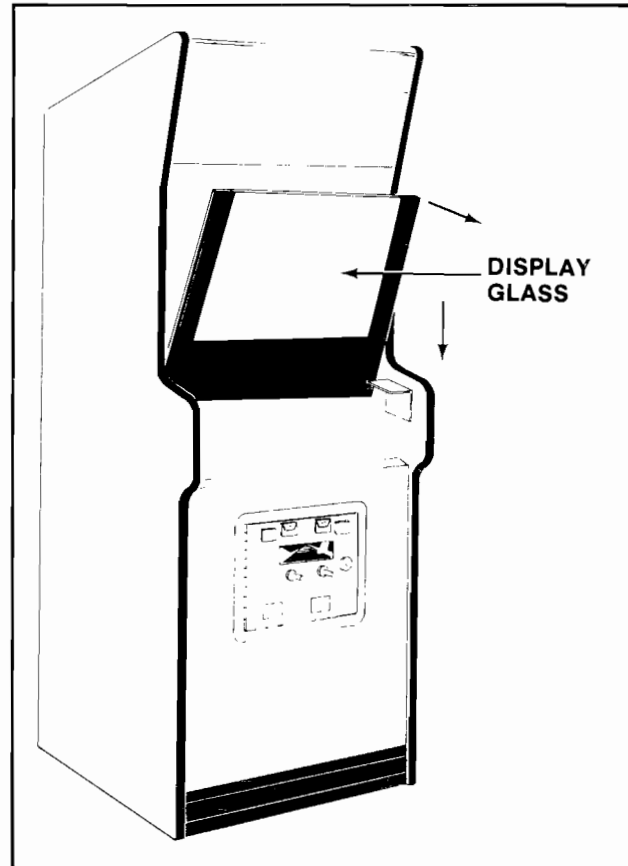

Figure 2-8 Main Display Glass Removal
- Grasp the main-display-glass in the bottom center, lift up slightly and pull it toward you about an inch, let it down just far enough so you can get hold of its top edge with your other hand and lift it out of the game. See Figure 2-8.